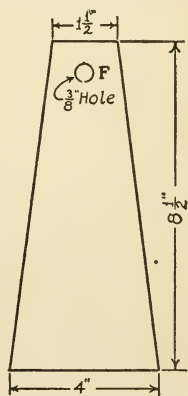

FIG. 354.
**The Trolley-line**, or overhead cable, runs around the wheels of two supports, one at either end of the track. Prepare four pieces of wood the shape and size of that shown in Fig. 354 for the uprights of these supports, and make two wheels three inches in diameter. The wheels may be marked out with a piece
and with a rasp make a groove around the edge as shown at *C*, Fig. 356. Bore a three-eighths inch hole through each upright at *F*, Fig. 354, and another through the centre of each wheel.